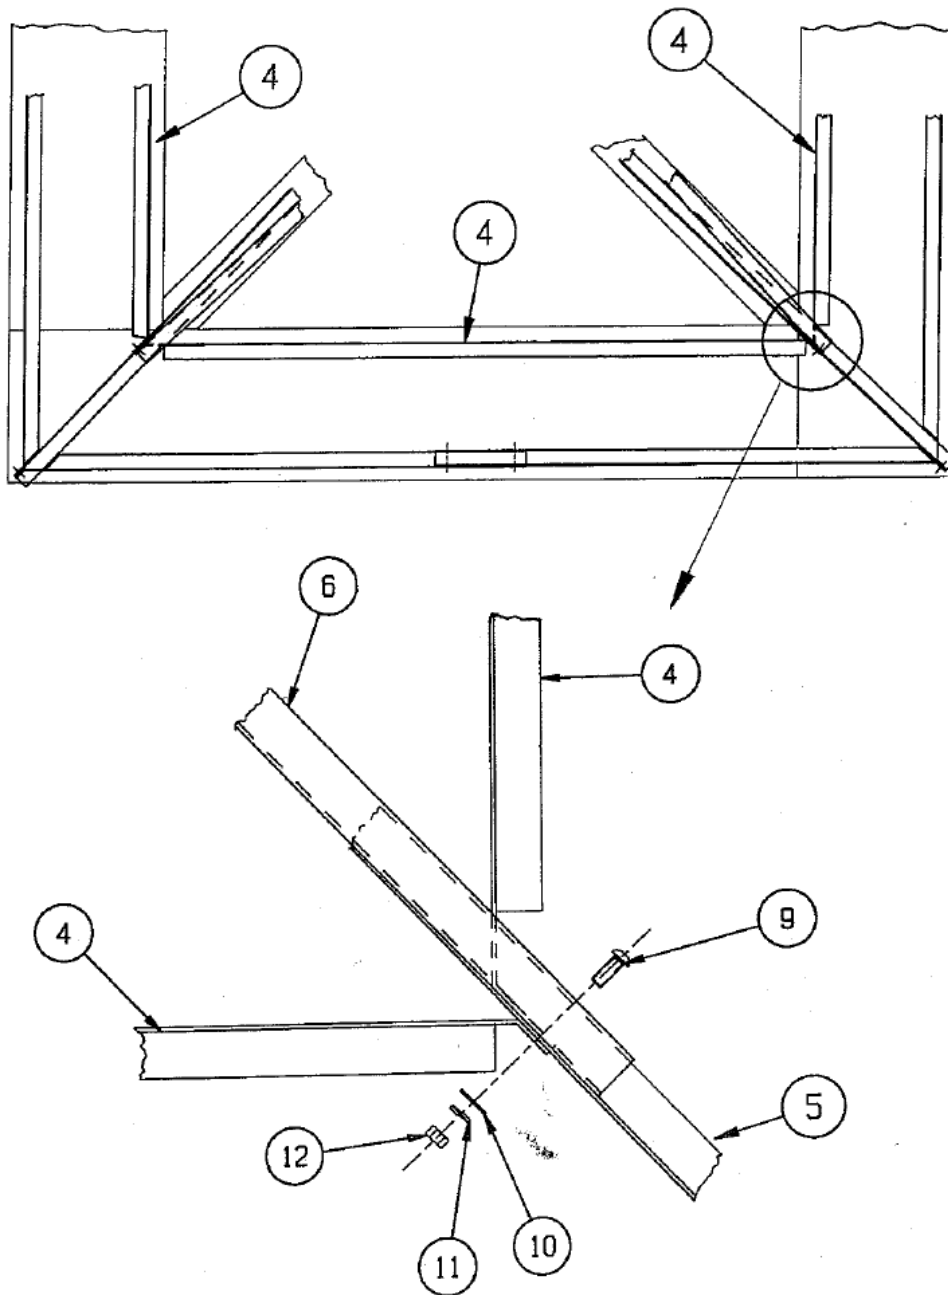

Figure 6
- STEP 7:** Position the (4) inner brace angles (item 4) as shown in Figure 6 and secure to the mast brace angle and diagonal base angle with a 3/8" carriage bolt, flatwasher, lockwasher, and hex nut (item 9, 10, 11, & 12).